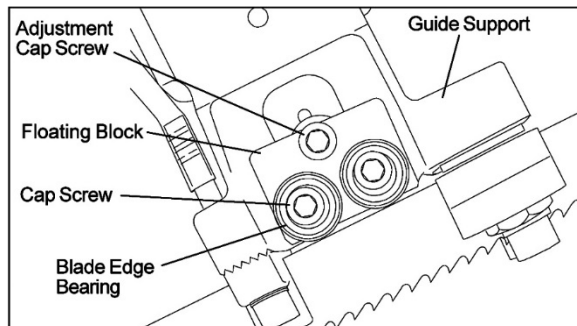

Figure 19: Blade edge bearing replacement
7. Adjust the bearings on upper edge of blade until they just contact blade (see Figure 19).
- Remove cap screw from blade edge bearing being replaced and discard bearing. Be careful not to lose the lock washer that separates the bearing from the floating block (see Figure 19).